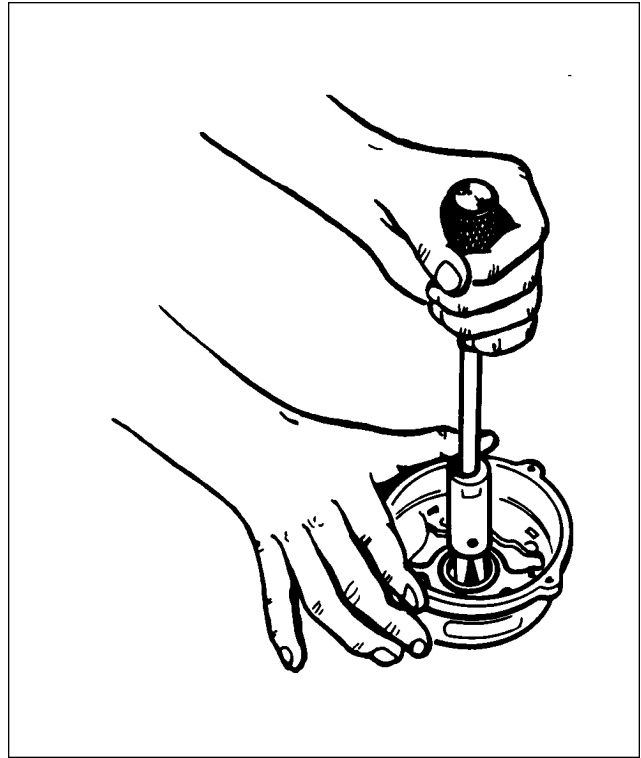

Figure 24-5. Removal of Slip Ring End Bearing
5. To remove the slip ring end bearing and grease seal, it will be necessary to have a hook type or impact type bearing Puller as shown in Figure 24-5. Do not remove the bearing unless replacement is necessary.